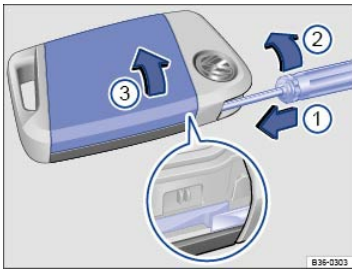

Fig. 50 Remote control vehicle key: Opening the battery compartment cover.
The battery is in the back of the remote control vehicle key under a cover ⇒ Fig. 50③.
Key to ⇒ Fig. 50 :
- Insert a small, flat-blade screwdriver into the emergency key slot ⇒ Fig. 50①.
- Turn the screwdriver in the direction of the arrow until the cover opens ⇒ Fig. 50②.
- Remove the cover in the direction of the arrow ⇒ Fig. 50③.